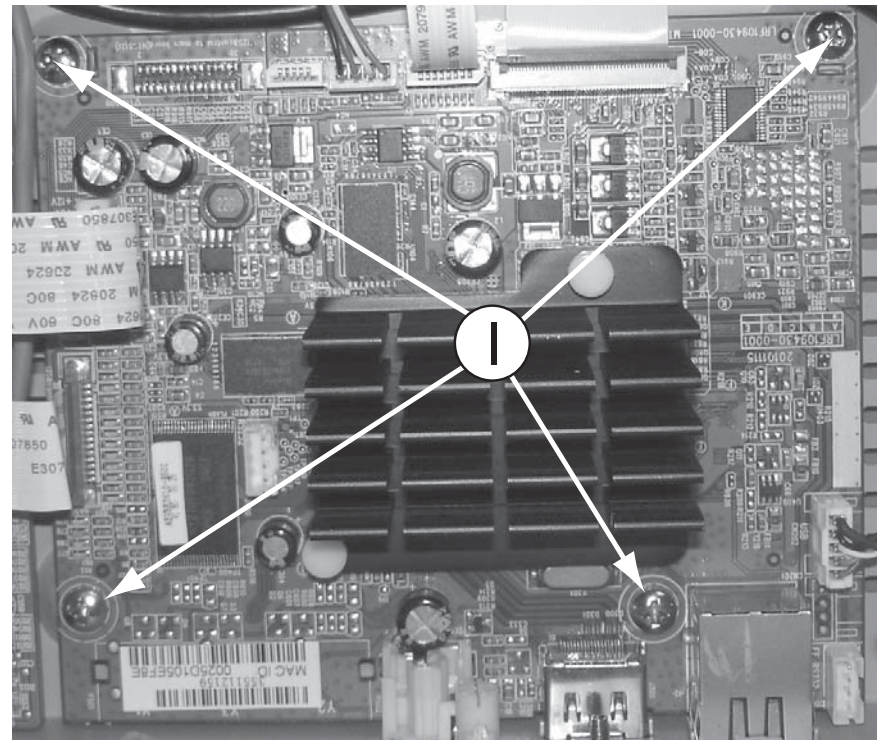

Figure 11
- 1) Loosen 4 screws "I" on the top of BD board as shown in figure 11.